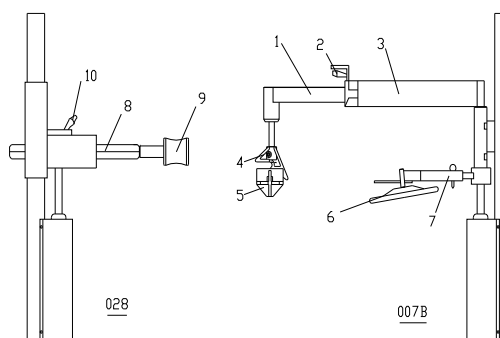

Fig 17
- 3) Install the two triangle support of help arm 007B. Install the help arm 007B and 028 on the tyre changer with the standard parts shown as Fig 17:
Fig 17 shows functional parts to the help arm device:
007B rise-fall switch handle (2, Fig 17): use for rising/falling 007B swing arm
028 rise-fall switch handle (10, Fig 17): use for rising/falling 028 tire pressing roller
The help arm devices must connect with the air compressor, and adjust the air pressure about 8 bars (the working air pressure of the help arm is 8 bars). Push the 007B switch handle (Fig 17) upward, the swing arm 1 (Fig 17) rise. Push the switch handle downward, the swing arm 1 fall. Push the 028 switch handle (10, Fig 17) upward, the tire pressing roller 9 (Fig 17) rise. Push the switch handle downward, the tire pressing roller fall.